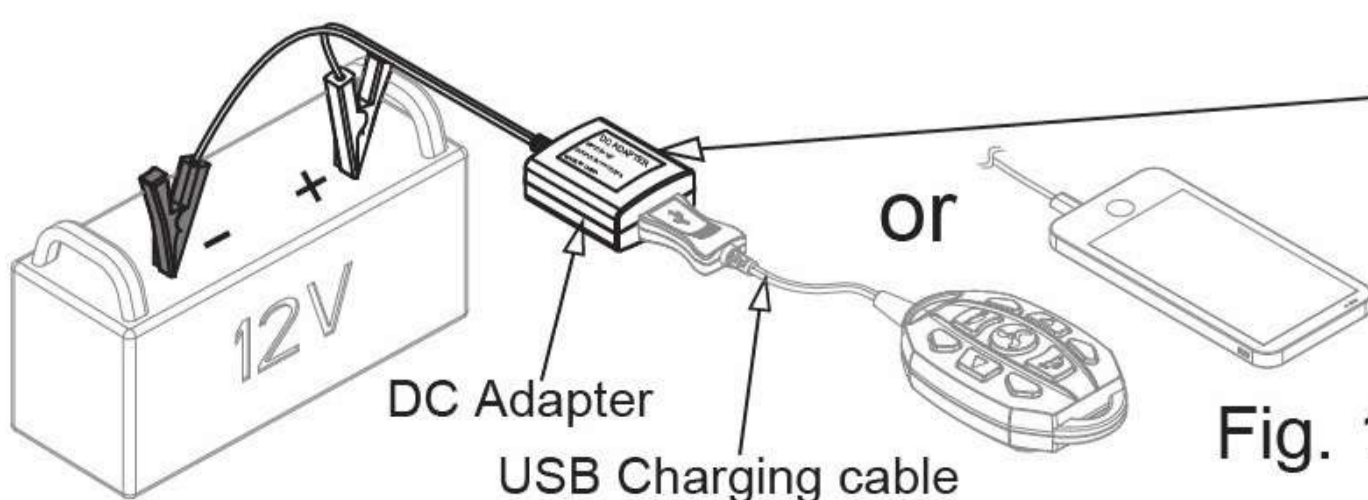
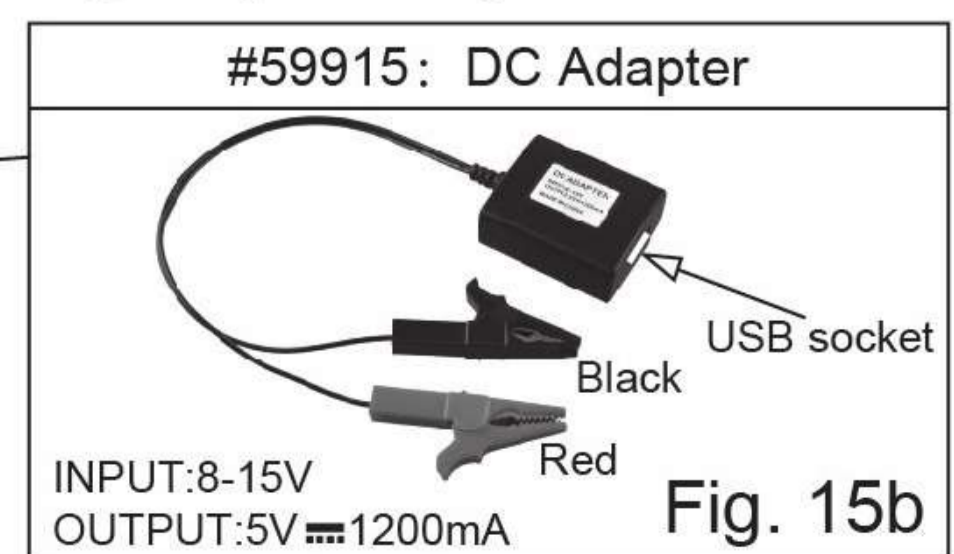

Fig. 15c
Fig. 15b
3. If you want, you can **buy** your item: #59915 DC Adapter (as Fig. 15b) to charge the remote and smartphone. (Fig. 15c)